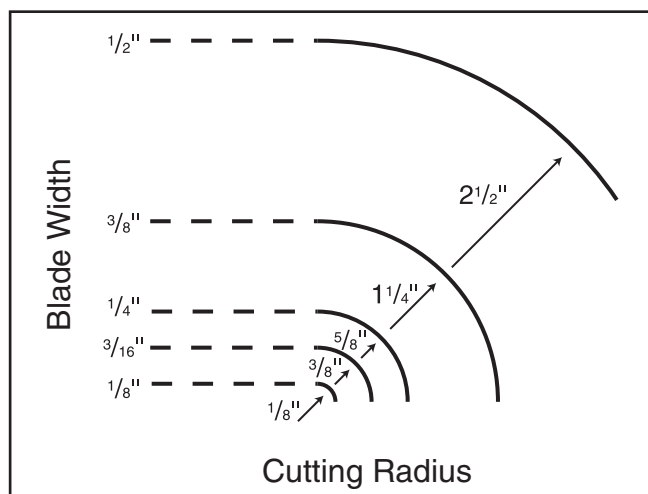

Figure 44. Blade width radii.
- **Curve Cutting:** Use the chart in **Figure 44** to determine the correct blade for curve cutting. Determine the smallest radius curve that will be cut on your workpiece and use the corresponding blade width.